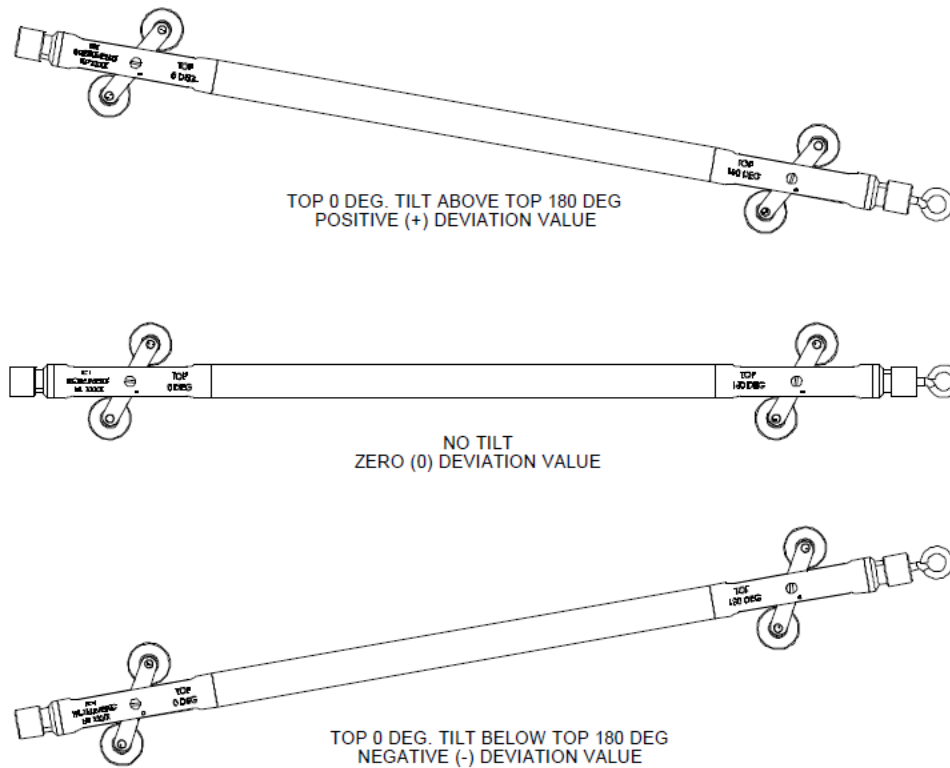

Figure 7: Tilt Sign Convention
- Verify that the probe's signal increases or decreases as its angle rotates with respect to the horizontal axis. A positive deviation is given when the MEMS Horizontal Probe rotates clockwise along the horizontal axis (see Figure 7). If the system is not functioning as expected, contact RST Instruments Ltd. For technical support.